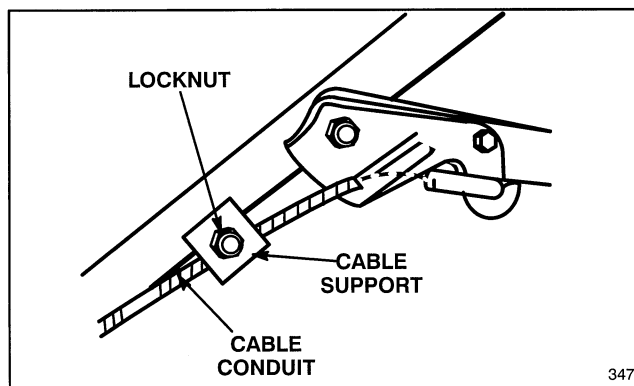

Figure 22
3. ADJUST CABLE CONDUIT—Loosen locknut on cable support (Fig. 22). Insert  $1/8'' - 3/16''$  object between brake lever and handle. Pull down on cable conduit until slack is removed. Then tighten locknut.